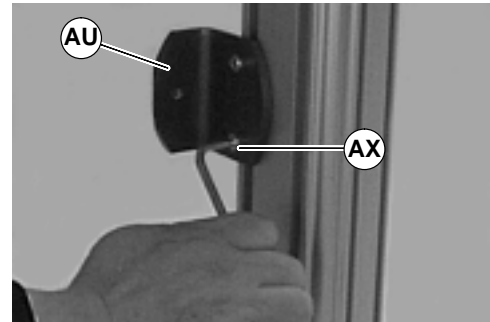

Figure 31
3. Attach brace bracket (AU of Figure 31) with M6 screws (AX). Tighten screws 80 in-lb (9 Nm).